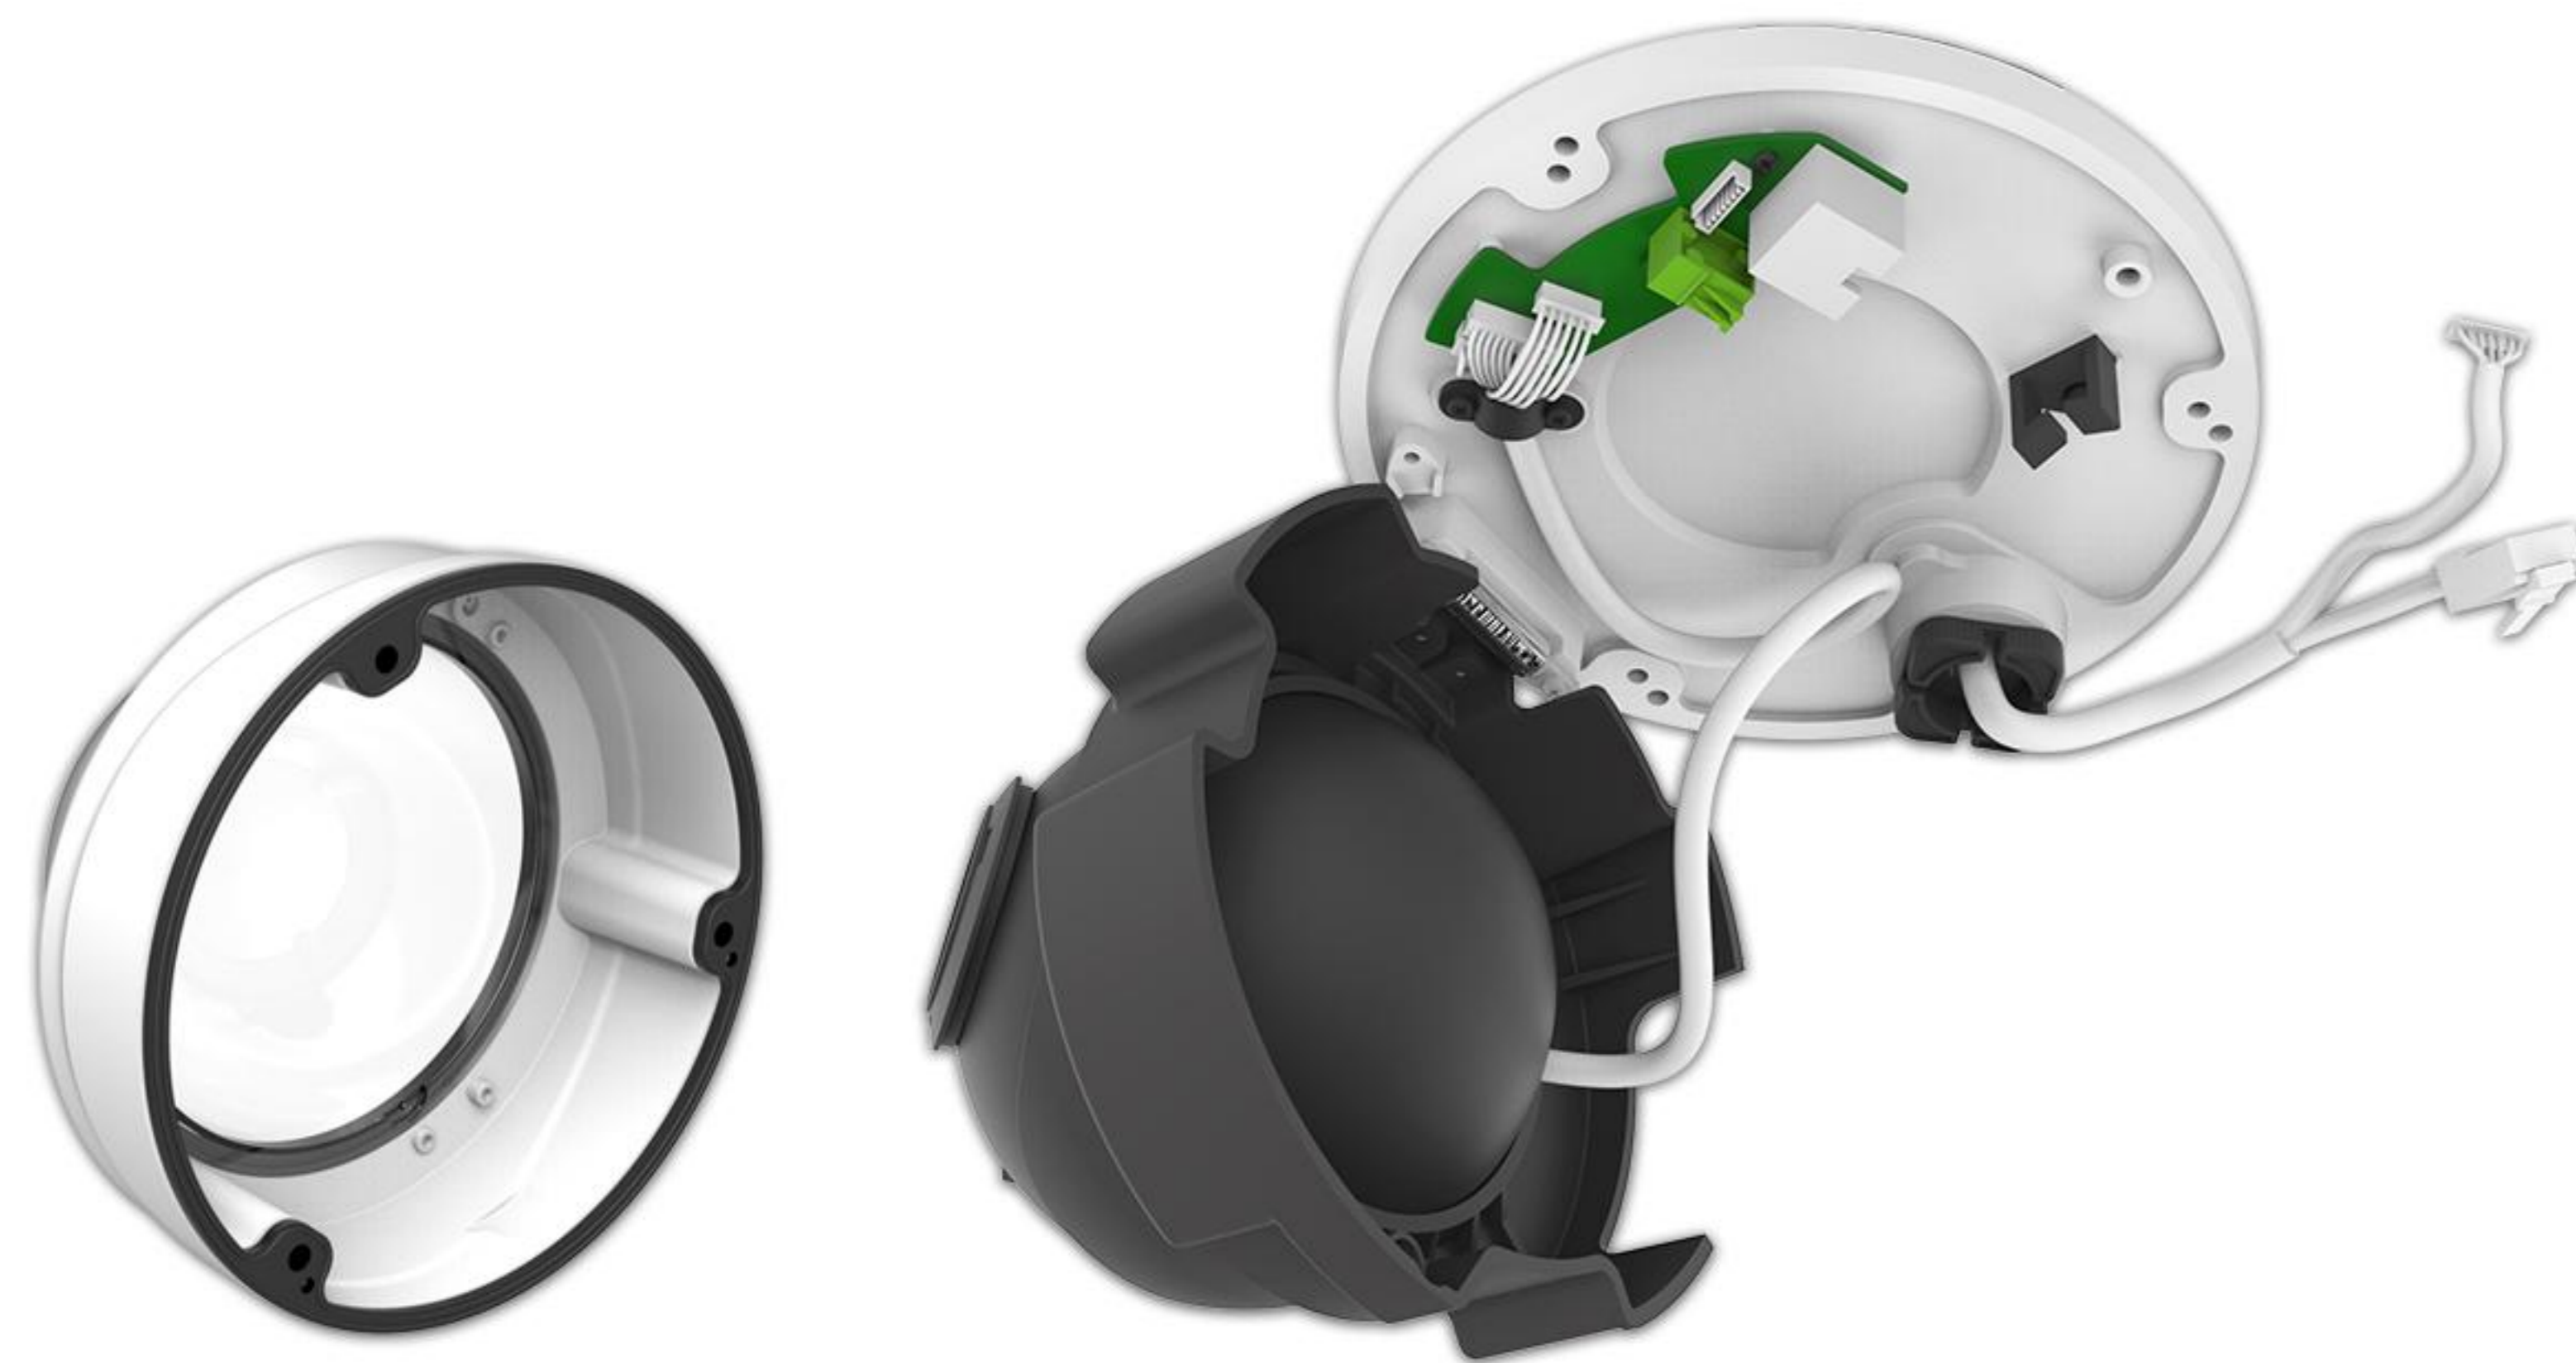

Figure 7
**Step 4:** Recombine the Black Rubber Bung and White Rubber Ring as a unit, then plug the Waterproof Connector tightly into the Cable Entry Hole (Figure 7);